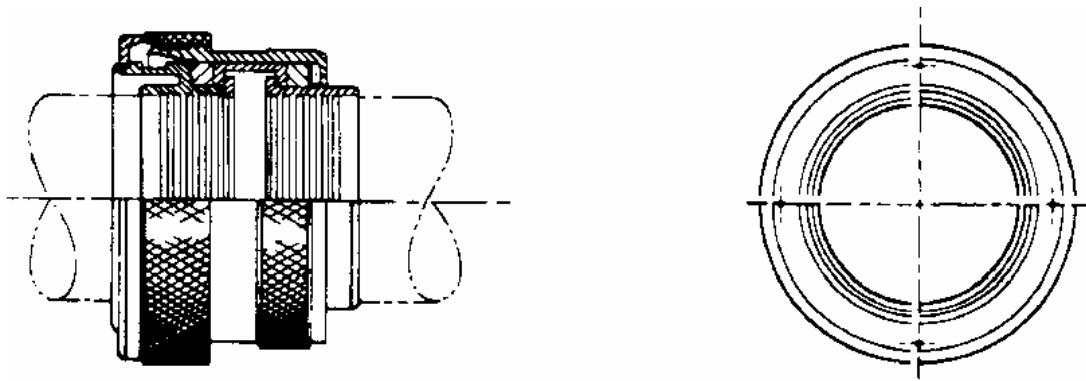

Figure 1. Full Coupling, Type 6305 (Size)
5. **Full Coupling.** The full coupling S305 or 6305 is used for joining swaged tubes from both ends (Figure 1); both ends of swaged tubes may flex.